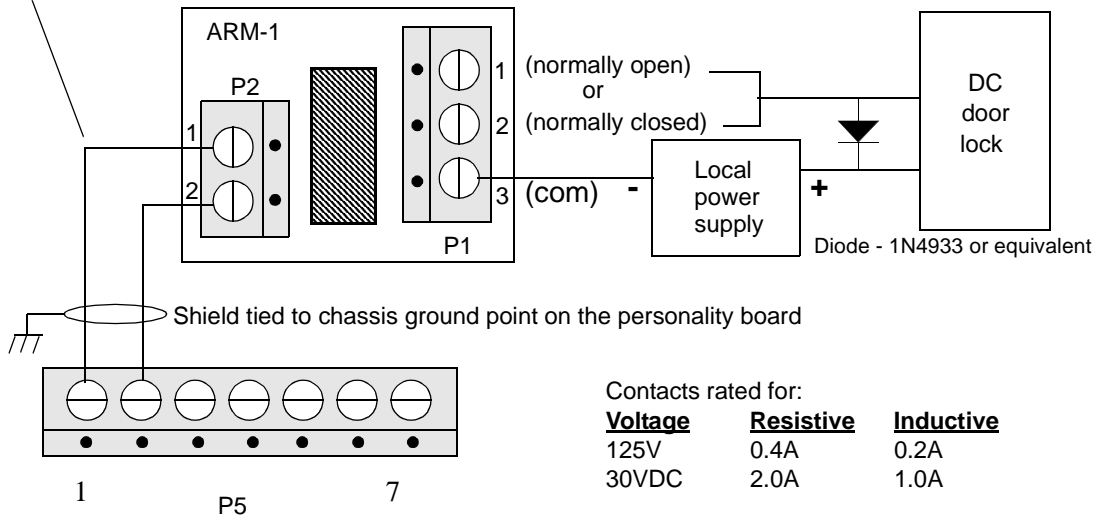

Figure 4.11 ARM-1 Wiring for DC Door Lock
6. If your power supply is DC, install a diode (Motorola or other manufacturer part #1N4933) across the door lock to suppress noise. The cathode must be on the positive side of the strike. The ARM-1 wiring for an installation with DC power is shown in Figure 4.11.